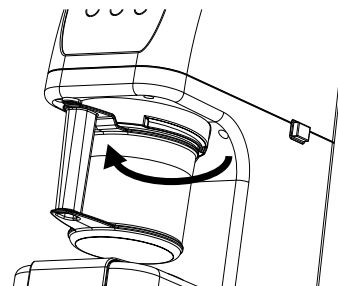

Fig 3
- Couple the jar by turning it 90° clockwise. When it reaches the correct position you will hear 2 clicks (Fig. 3)
- In some preparations, pressure may remain in the jar (G). We recommend pressing the decompression button (K) to allow the jar to be removed (G).